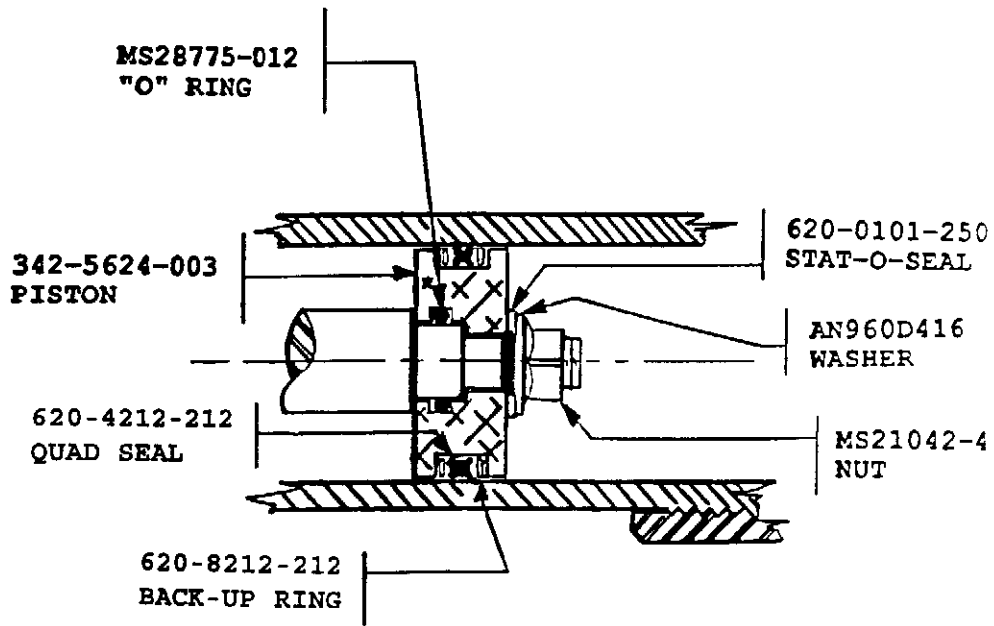

Figure 4: Current-Style Piston Assembly
**3) Current-Style Piston Assembly:** Hydraulic cylinders shipped since December 1993 feature with an improved piston and seals, as shown in Figure 4. This piston (also 1/2" thick) comes with an external seal groove sized for a "Quad Seal" with back-up rings. Also, an internal "O" ring (P/N MS28775-012) has been added to improve the seal of the piston to actuator rod.
**Note** Only original-style pistons that are 1/2" long can be upgraded to the replacement piston assembly (342-5624-103) with the new Quad Seal and internal "O" ring installation, as shown in Figure 4. The piston upgrade is available from the Stoddard-Hamilton Order Desk. If a modified piston is being used, we recommend upgrading it with the Quad Seal and two bback-up rings only.